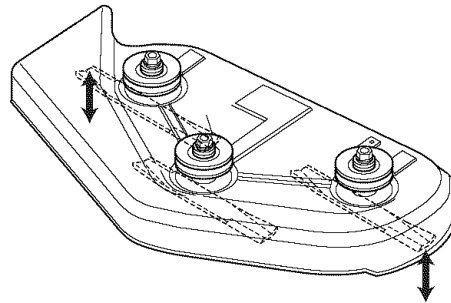

Figure 34. Orient Blades Side-to-Side
4. Set the cutting height to mid position. Arrange the mower blades so that they are pointing from side-to-side (Figure 34).